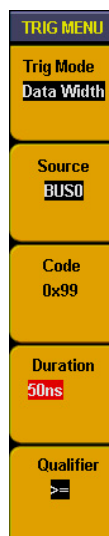

Fig 72: Duration trigger menu
6、**Data width queue trigger**: Make BUS as trigger source and continuous duration in BUS as trigger condition to generate trigger. Duration trigger menu refer to Fig. 72